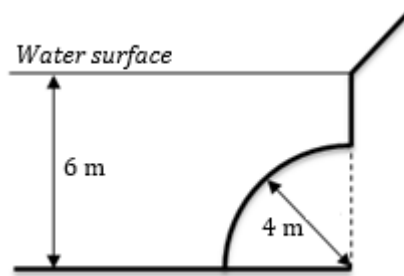

Figure 9
9. A curve gate AB is submerged in a water as shown in figure 9. Determine the magnitude and resultant force required to keep the gate closed. (Ans: 192919.669 N, 36°)